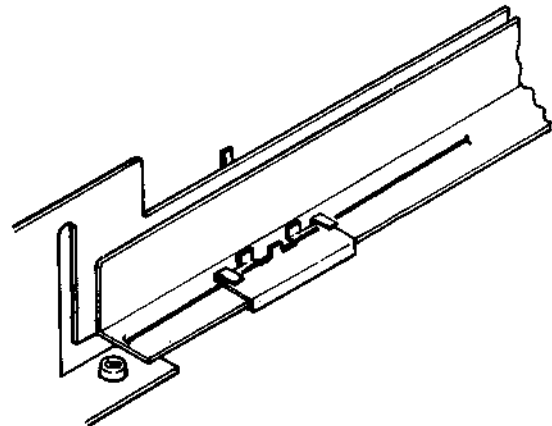

Fig. 2-11-5 Dial Pointer Detail
- (k) Put the dial pointer in place and run the dial cord under and through the tabs at the rear of the dial pointer. See Fig. 2-11-5.